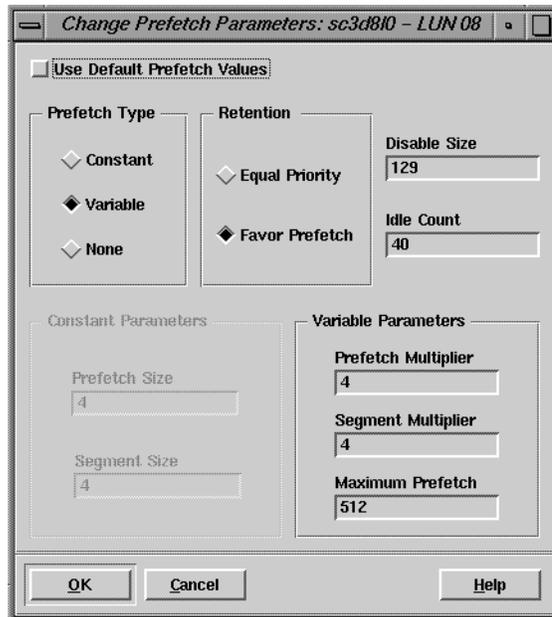

Figure 3-5 Prefetch Window
You set prefetch parameters in the Prefetch window; see Figure 3-5.
3. Select LUN > Prefetch > Change Prefetch Parameters. The Change Prefetch Parameters window appears; Figure 3-5 shows an example.
To reset all prefetch parameters to the defaults, choose LUN > Prefetch > Set Default Prefetch Values, or click *Use Default Prefetch Values* at the upper left corner (see Figure 3-5).